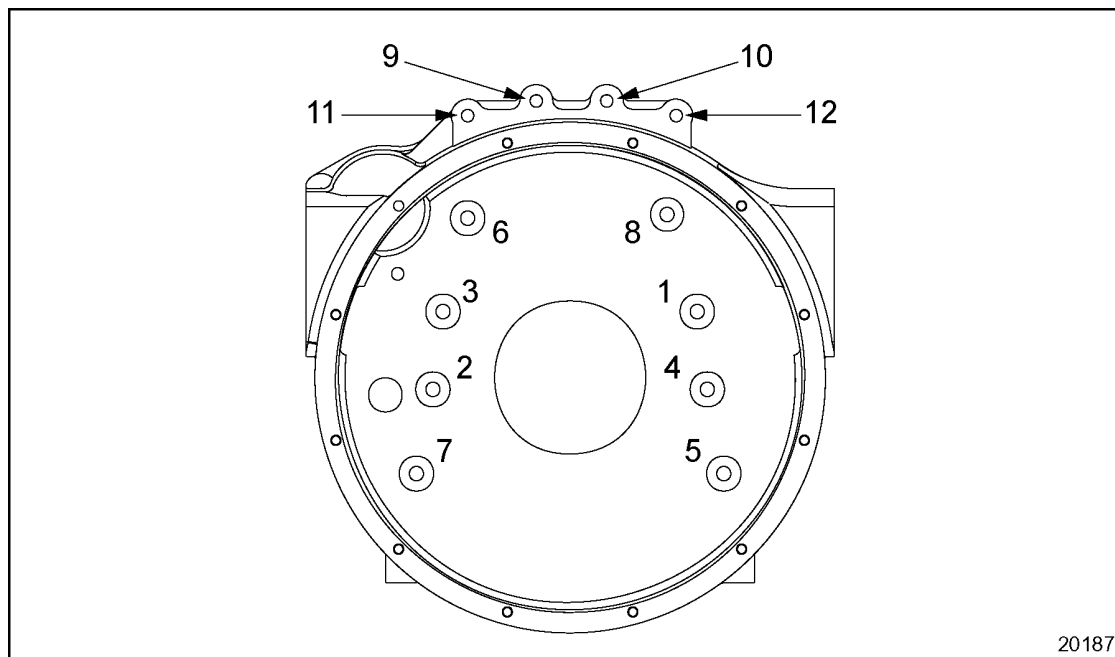

Figure 1-221 Flywheel Housing Bolt Torque Sequence
6. Tighten the eight short and four long flywheel housing bolts to the cylinder block using the proper tightening sequence. See Figure 1-221.
9. Install flywheel housing. Tighten the eight short and four long bolts to the cylinder block using the tightening sequence. See Figure 1-221.